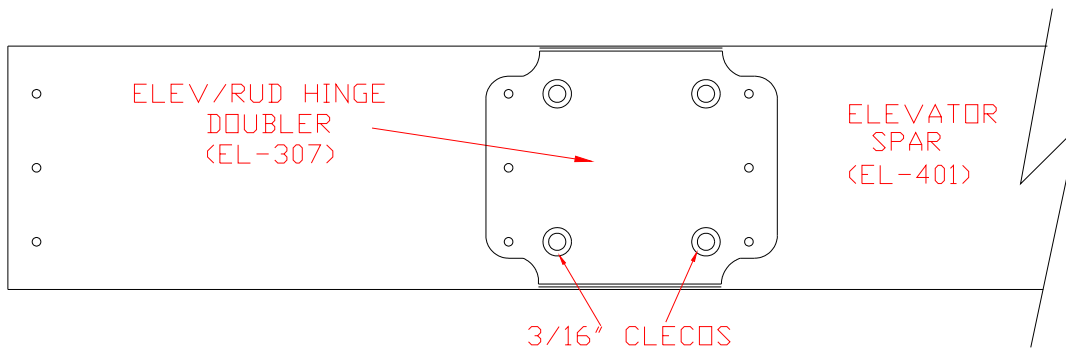

Figure 3.1.2
- 5) On one end of the Elevator Spar, cleco an Elev/Rud Hinge Doubler (EL-307) using the four 3/16” holes in the parts. Figure 3.1.2. Repeat for the other end.